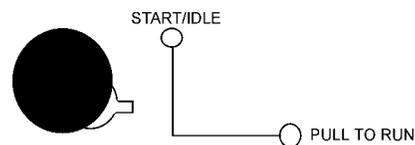

Figure 51. Engine Throttle Lever (High)
9. Pull and turn the engine throttle lever (Figure 51) to increase the engine speed to high.